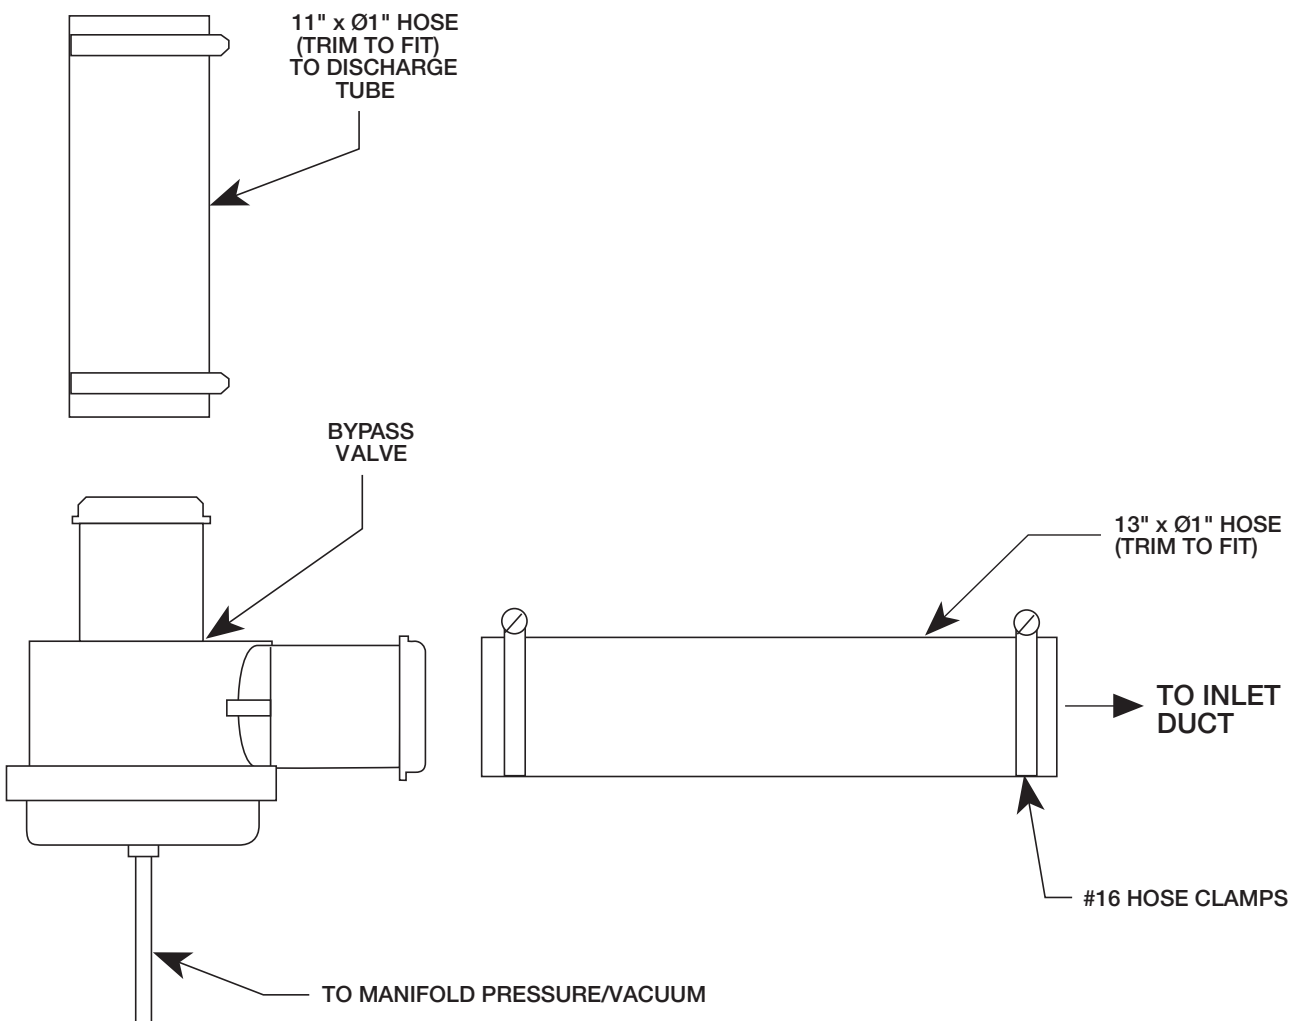

Fig. 3I-a
- C.** Secure the 13" piece to the outlet of the valve, securing it with a clamp. (See Fig. 3I-a.)